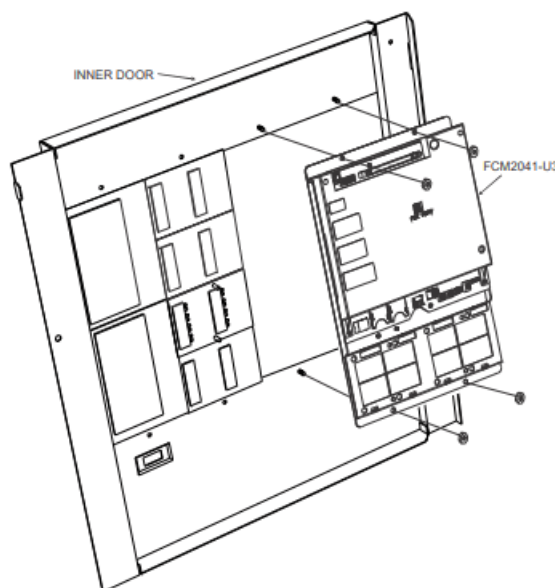

Figure 4 Mounting the FCM2041-U3 to the Rear of the Inner Door
The FCM2041-U3 mounts to the rear of the inner door in the CAB-1, CAB-2, CAB-3, REMBOX2 or REMBOX4 enclosures. Select the location of the FCM2041-U3. It can be mounted either in the center or on the left side of the inner door, when viewed from the outside of the enclosure. Place the FCM2041-U3 onto the inner door from the rear, over the four mounting studs in the desired location. Secure the FCM2041-U3 to the inner door with the four nuts provided. (Refer to Figure 4.)
- c) Physically remove the original PMI and install the new FCM2041-U3 on the inner door of the enclosure. (For more detail see the INSTALLATION section and Figure 4 of this document.)